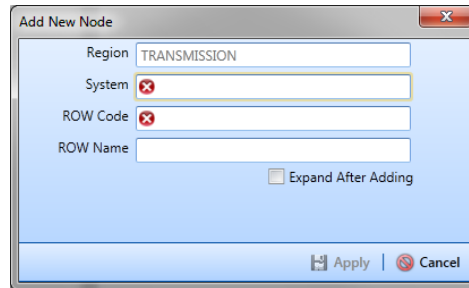

Figure 3-2. Add New Node
- 3 Click **+ Add** to open the *Add New Node* dialog box (Figure 3-2, page 91).